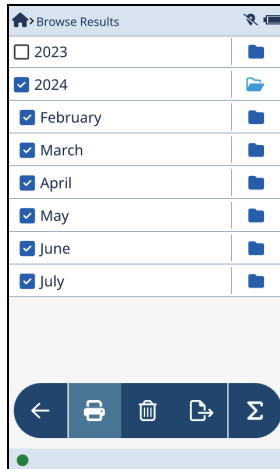

Figure 2-40 Browse Results – Month view
2. Tap a year to open the month view (see Figure 2-40 on page 55)